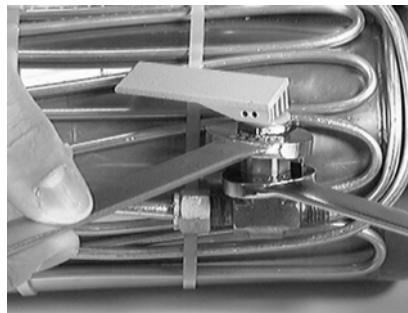

Figure 5-17
- Use a $\frac{5}{8}$ -in. open-wrench on the vent valve body hex flats to hold the body stationary. Use a $\frac{11}{16}$ -in. open end wrench to loosen the jam nut **3** that holds the vent valve to the mounting bracket (Figure 5-17).